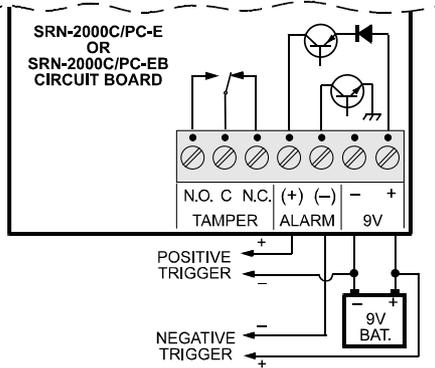

Figure 7. SRN-2000C/PC-E & -EB Wiring
B. Models SRN-2000C/PC-E and -EB (see Figure 7)